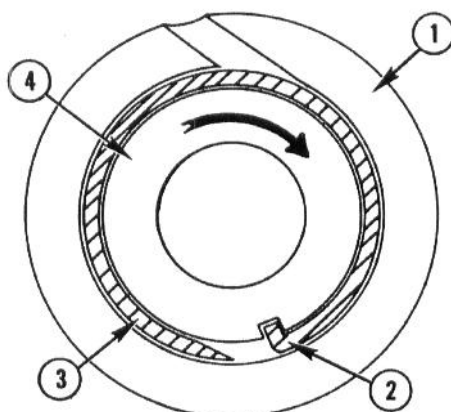

Fig. 66 — Direction of Bearing Rotation for Access to Wire Retaining Ring
b. Rotate bearing clockwise (as viewed from bearing end of barrel) ... until BEVELED END of wire retainer is visible at hole in barrel, see Fig. 66.